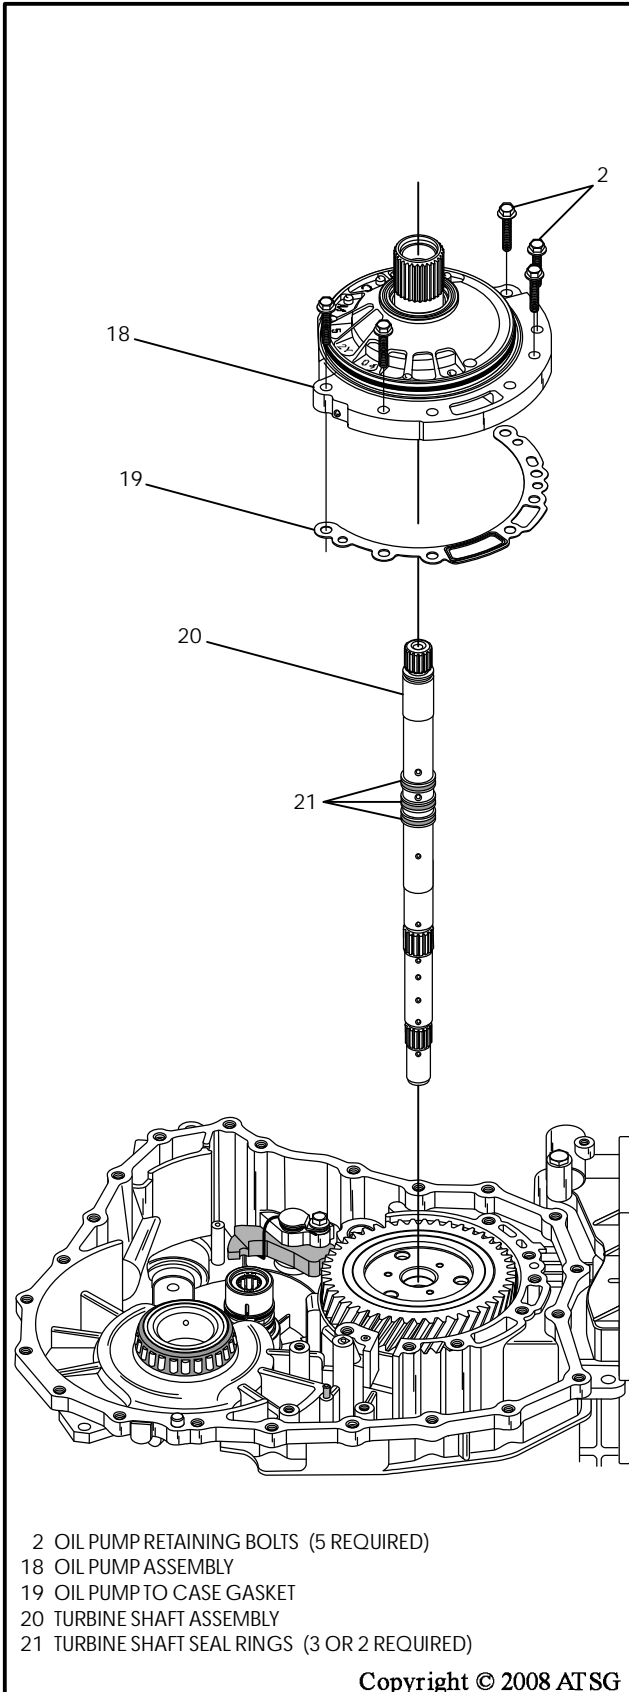

Figure 44
34. Remove the remaining five oil pump retaining bolts, as shown in Figure 44.
35. Remove the oil pump assembly by lifting straight up, as shown in Figure 44.
36. Remove and discard the oil pump to case gasket, as shown in Figure 44.
37. Remove the turbine shaft by lifting straight up, as shown in Figure 44.